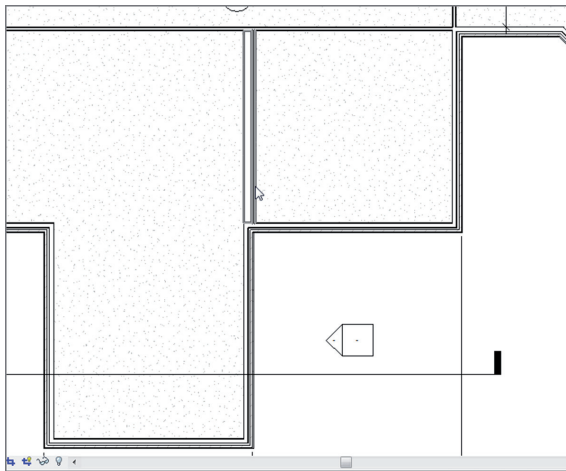

FIGURE BC1.24: Adding the new stacked wall to the model
- Draw the wall in the west wing, as shown in Figure BC1.24. (If you want, you can create an elevation or cut a section through the wall.)